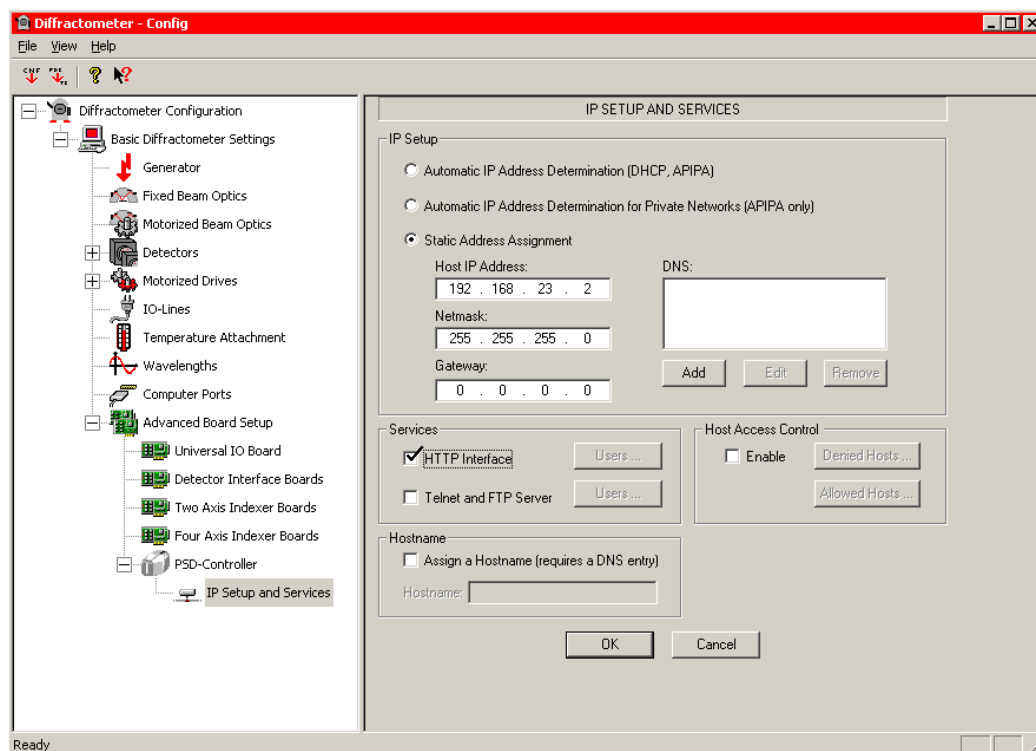

Figure 6.7 - IP setup
2. Go to **IP Setup and Services** (see Figure 6.7).